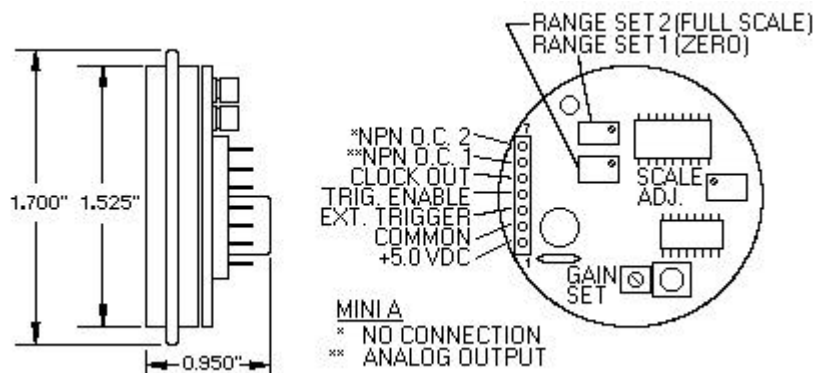

Figure 1. Dimensions of the transducer and the location of the adjustment potentiometers on the circuit board mounted in back of the transducer.
- Figure 1. Dimensions of the transducer and the location of the adjustment potentiometers on the circuit board mounted in back of the transducer. 6
This users manual provides general guidelines and suggestions in using the Mekatronix Ultrasonic sonar sensor module MUST01™ in many measurement applications. If further technical information is required, please contact Mekatronix technical support at tech@mekatronix.com. Refer to Figure 1 frequently as your read this manual. That figure shows the placement of the different adjustment potentiometers and the 7-pin male header for connecting the sonar system to Mekatronix robots or Mekatronix microcontroller applications.
Attach the Mekatronix sonar interconnect cable to the 7-pin connector on the MUST01. The 7-pin connector inserts onto the MUST01™ 7-pin header (Figure 1) with the center wire connecting to the pin one, the power pin. Reversing the connector will not power the sensor and should not cause any damage, but refrain from developing a bad habit!
3. Set gain control to 50% (Fig. 1). Do this by turning the Gain-Set potentiometer fully counterclockwise and then rotate half the distance to the full clockwise position.